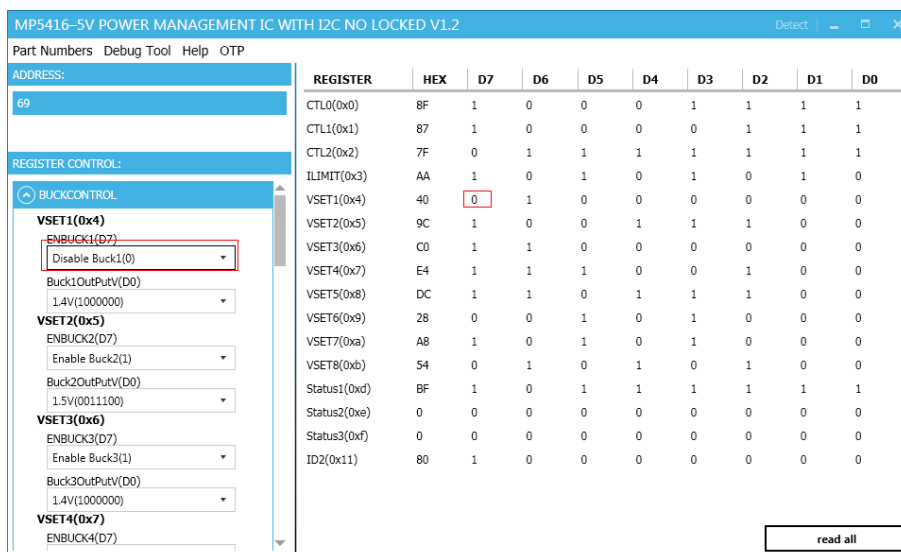

Figure 11: Refer to Datasheet to Translate 0's and 1's
- Click the “Read All” button to update values. The changed information of the item will appear on the right side (see Figure 11).